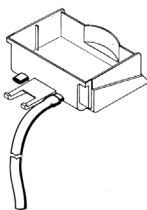

figure 1
- 8** Each drip tray has two diaphragm plugs: if a continuous drain is needed, perforate one of the drain plugs and connect it to a flexible drain line (see figure 1).